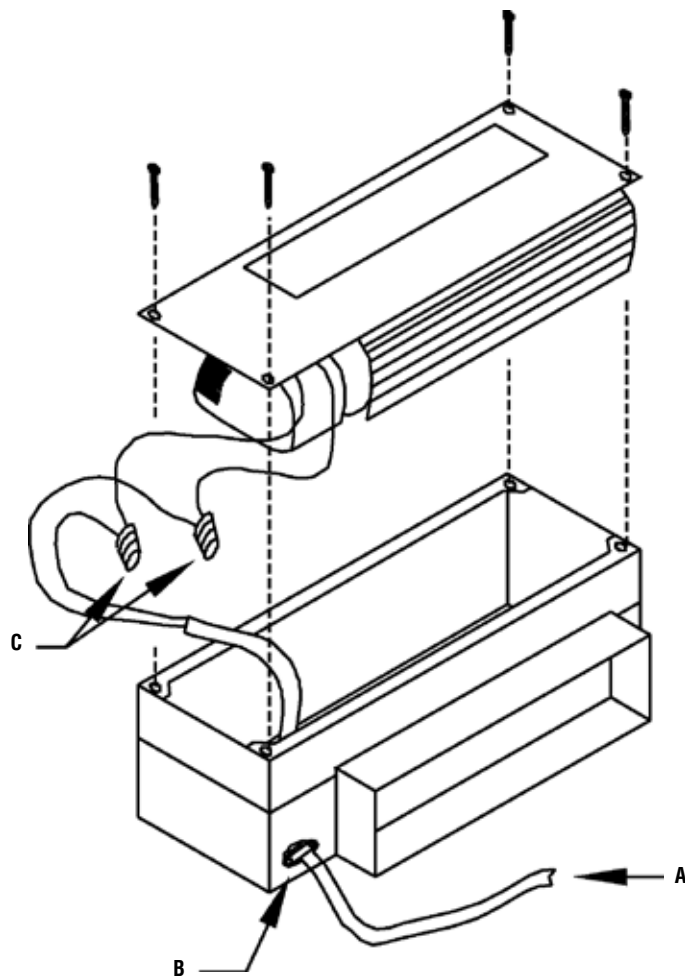

Figure 43
4. Remove the four screws holding the fan to the fan box and lift fan out of the fan box (see **Figure 43**). Feed the sheathed wire A through the wire clamp B. Remove the insulation from the sheathed wire and the two wires coming from the fan motor. Join together using the wire nuts provided the black wire from the motor and the black sheathed wire. Also join the two white wires. Fasten the ground wire to the green grounding screw inside the fan box. Reinstall the fan in the fan box using the four screws.